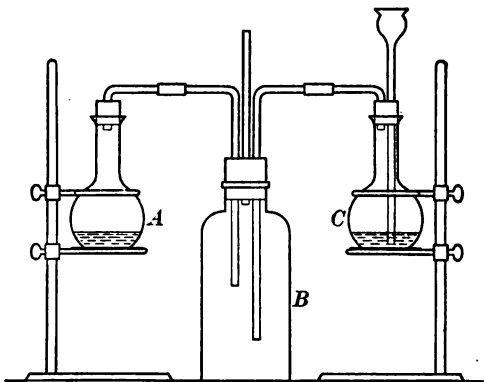

FIG. 43
*c.* Place about 10 cc. of water in a bottle and saturate it with sulfur dioxide; then pass hydrogen sulfide into the solution. What is the precipitate (R)? Can you filter it off? What is this form called?
**97. Sulfuric acid.** *a. Usual laboratory method* (hood). Arrange an apparatus according to Fig. 43, in which *B* represents a wide-mouthed bottle of about 1 liter capacity. The bottle should be rinsed out with water but *not* dried. By the action of *concentrated* nitric acid on copper, generate nitrogen dioxide in *C* until *B* is filled with red fumes. Now pass in sulfur dioxide from *A* until the red fumes entering from *C* are completely decolorized; then replace *A* with a flask containing
Now apply this test to the liquid taken from the bottle *B* (Fig. 43). Note the results.